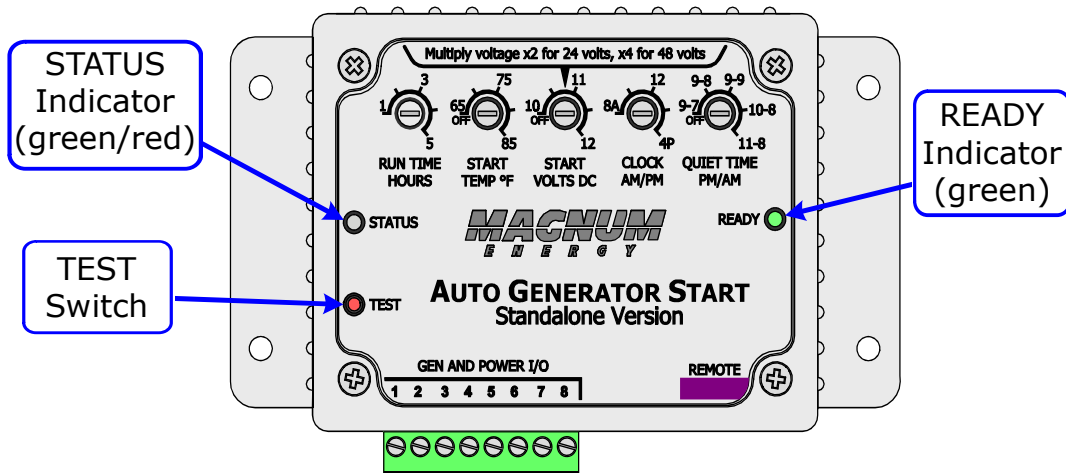

Figure 4-1, Controller Front Panel Controls and Indicators
1. a) Press and release the AGS's red *TEST* switch (Figure 4-1); or,
The AGS controller (Figure 4-1) provides a pushbutton to test system operation, and two LED indicators for viewing system operation.